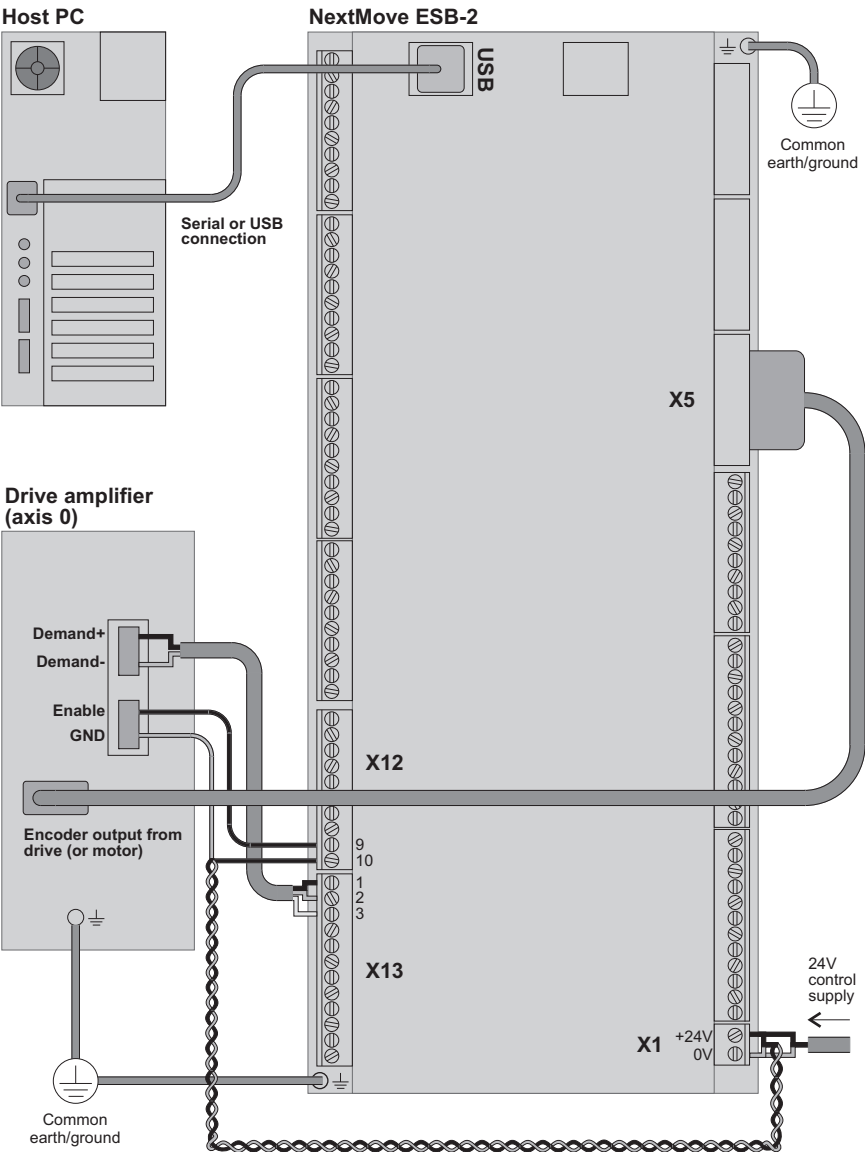

Figure 30: Example minimum system wiring
As a guide, Figure 30 shows an example of the typical minimum wiring required to allow the NextMove ESB-2 and a single axis drive amplifier to work together. Details of the connector pins are shown in Table 2.
**Table 2: Connector details for minimum system wiring shown in Figure 30**